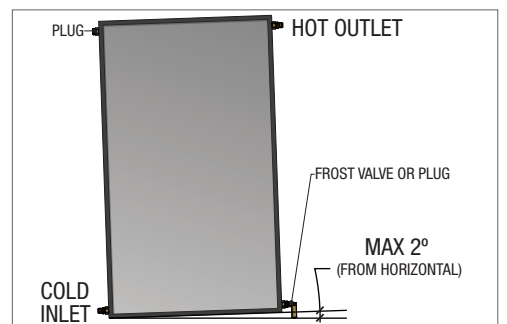

Fig 4
- c. Angle the collector rail slightly (max 2° from horizontal) on the side where the hot outlet will be, to allow any air to be bled from the highest point (Fig 4).
- b. Angle the collector rail slightly (max 2° from horizontal) on the side where the hot outlet will be, to allow any air to be bled from the highest point (Fig 4)